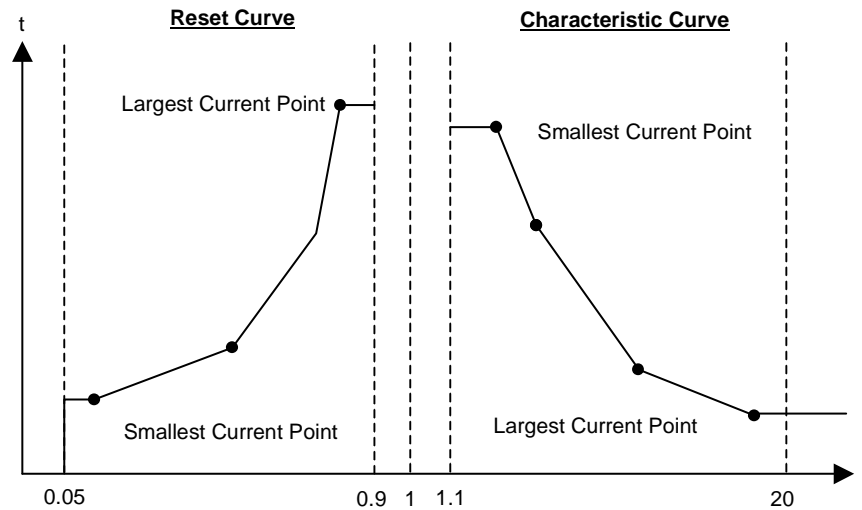

Figure 6-18 Use of a User-Specified Curve
- Current flows which are less than the *smallest* current value entered will not lead to an extension of the tripping time beyond the time associated with the smallest current value entered. The characteristic curve (see Figure 6-18) represents constant tripping time for currents less than the *smallest* current value entered.
- Current flows which are greater than the *largest* current value entered will not lead to a reduction of the tripping time below the time associated with the largest current value entered. The characteristic curve (see Figure 6-18) represents constant tripping time for currents greater than the *largest* current value entered.
- Current flows which are greater than the *largest* current value entered will not lead to an extension of the reset time beyond the time associated with the *largest* current value entered. The reset curve (see Figure 6-18) represents constant reset time for currents larger than the largest current value entered.
- Current flows which are less than the *smallest* current value entered will not lead to a reduction of the reset time below the time associated with the *smallest* current value entered. The reset curve (see Figure 6-18) represents constant reset time for currents smaller than the smallest current value entered.